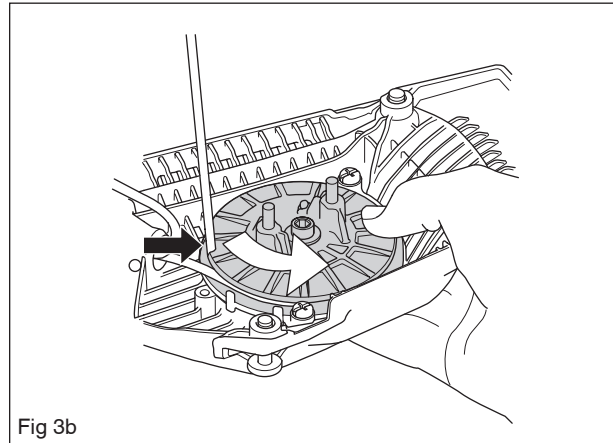

Fig 3b
1. Pull the cord out about 30 cm and lift it into the notch on the outside of the starter pulley. Release the tension on the return spring by allowing the starter pulley to rotate slowly backwards. See figure 3b.